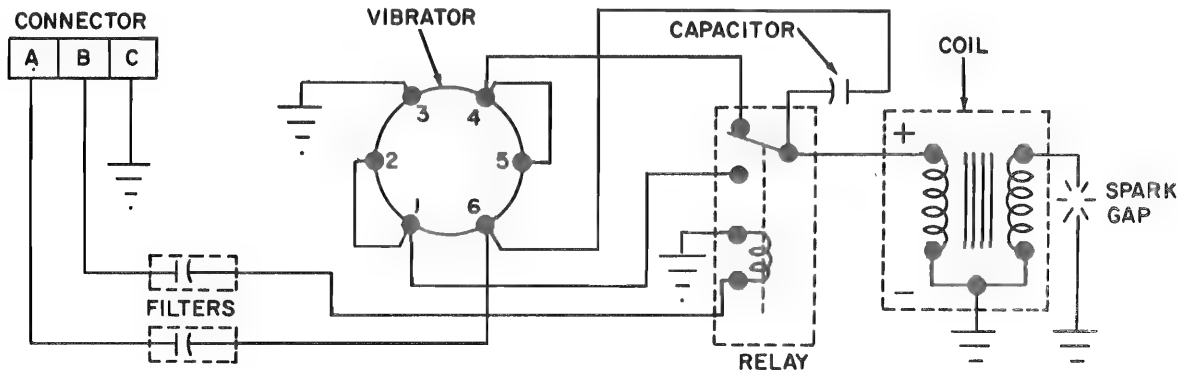

Figure 10-15. Wiring Diagram
a. If removed during disassembly, attach relay bracket assembly (25) to relay (28) with screw (26) and lockwasher (27).
b. Place relay (28) in position on the leg of bracket assembly (33) and install screw (23) and lockwasher (24).
c. Connect all relay wires possible at this time in accordance with wiring diagram. (See figure 10-15.)
e. Connect and solder remaining wires in ignition body assembly, making certain that connections coincide with figure 10-15.